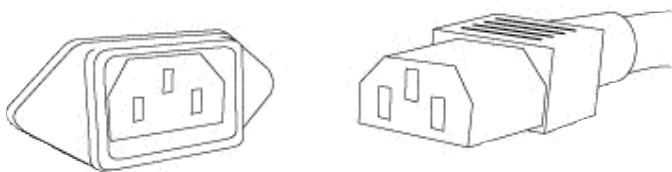

Figure 2 - Align socket pins to corresponding holes and push together.
- C - Sets 1 & 2 of the RCA Single-Ended Outputs - These unbalanced outputs are single ended and should be used when connecting the outputs to another single-ended unit. These two outputs, as with the XLR outputs (B), allow for easier biamping and greater system flexibility.
- D - RCA Single-Ended Tape Output - These outputs connect to the inputs of a tape deck. When not recording these outputs should be muted via the Record/Off Switch (O).
- I - Direct RCA Single-Ended Input - This input accepts a single-ended input connection from any source to achieve the highest possible sonic performance, bypassing the Balance Control (Q) and the Record/Off Switch (O).
- J - Direct XLR Balanced Input - This input accepts a balanced input connection from any source to achieve the highest possible sonic performance, bypassing the Balance Control (Q) and the Record/Off Switch (O).
- K - Detachable Power Cord Socket - Plug the Power Supply's Detachable Power Cord into this socket (see Figure 2). The SFL-2 is factory set for the correct operating voltage for the area in which it is sold (see shipping box for voltage setting). If a different operating voltage is required, please contact an authorized Sonic Frontiers dealer, distributor or the factory directly.